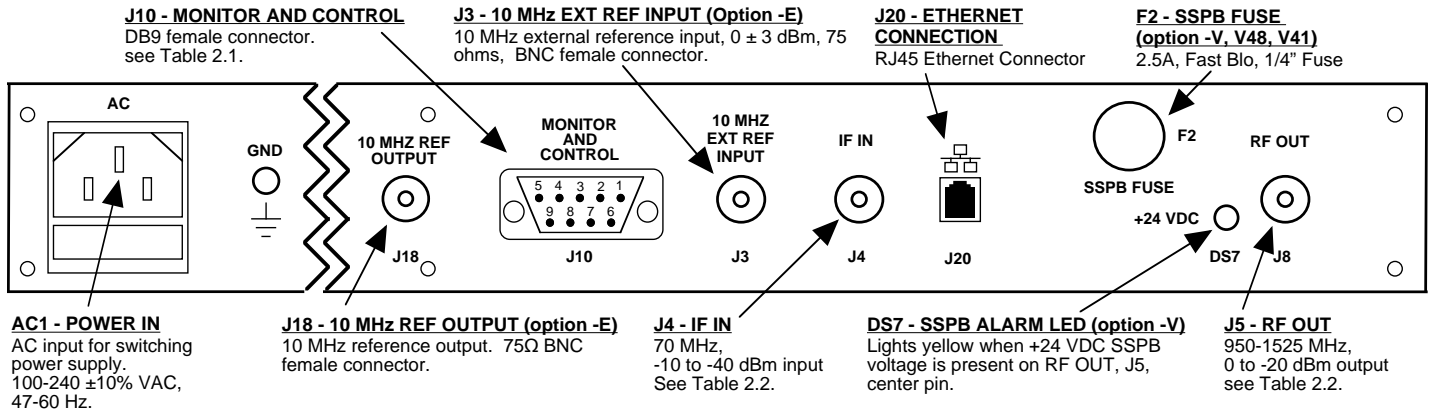

FIGURE 2.1 2015-03A Rear Panel I/O's
2.2 Rear Panel Input/Output Signals - Figure 2.1 shows the input and output connectors on the rear panel.
1. Connect a -40 dBm to -10 dBm signal to IF In, J4 (Figure 2.1)
8. Options -V, -V41, -V48 only - To insert SSPB Voltage, +24, +V48 VDC on the RF center pin install 2.5A fast blo fuse in F2 and check that DS7 lights yellow (Figure 2.1)